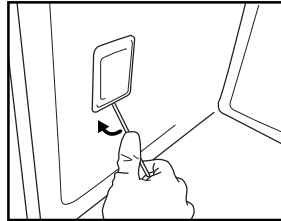

Fig. 8
3. Use a screwdriver to prise off the lamp cover (Fig. 8).